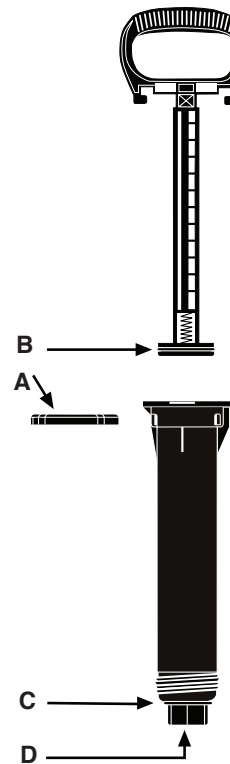

FIG. 4
- Pumps with bottom thread (FIG. 4) disassemble by pushing pump rod down all the way, pulling clip (A) out from side, and pulling pump rod up until disassembled.
- With pump disassembled, inspect seal ring (B) for damage. If in good condition, wipe off any foreign particles. If damaged, replace using parts from repair kit. Oil with 20 weight or heavier motor oil.
- Inspect cylinder gasket (C). If soiled, clean all surfaces of gasket and rim of tank with clean lint-free cloth. If split or worn, replace using parts from repair kit.
- Inspect check valve (D). If soiled, clean with lint-free cloth. If worn or split, replace using parts from repair kit.
- Reassemble by starting plunger into pump cylinder at an angle. Push pump plunger to bottom of pump cylinder and replace retainer clip (A).